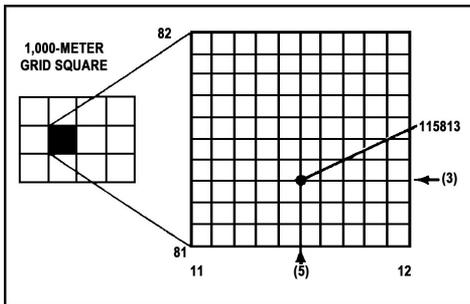

Figure 071-329-1002-2. Grid square 1181 divided
2. Determine point grid coordinates without coordinate scale (figure 071-329-1002-2).